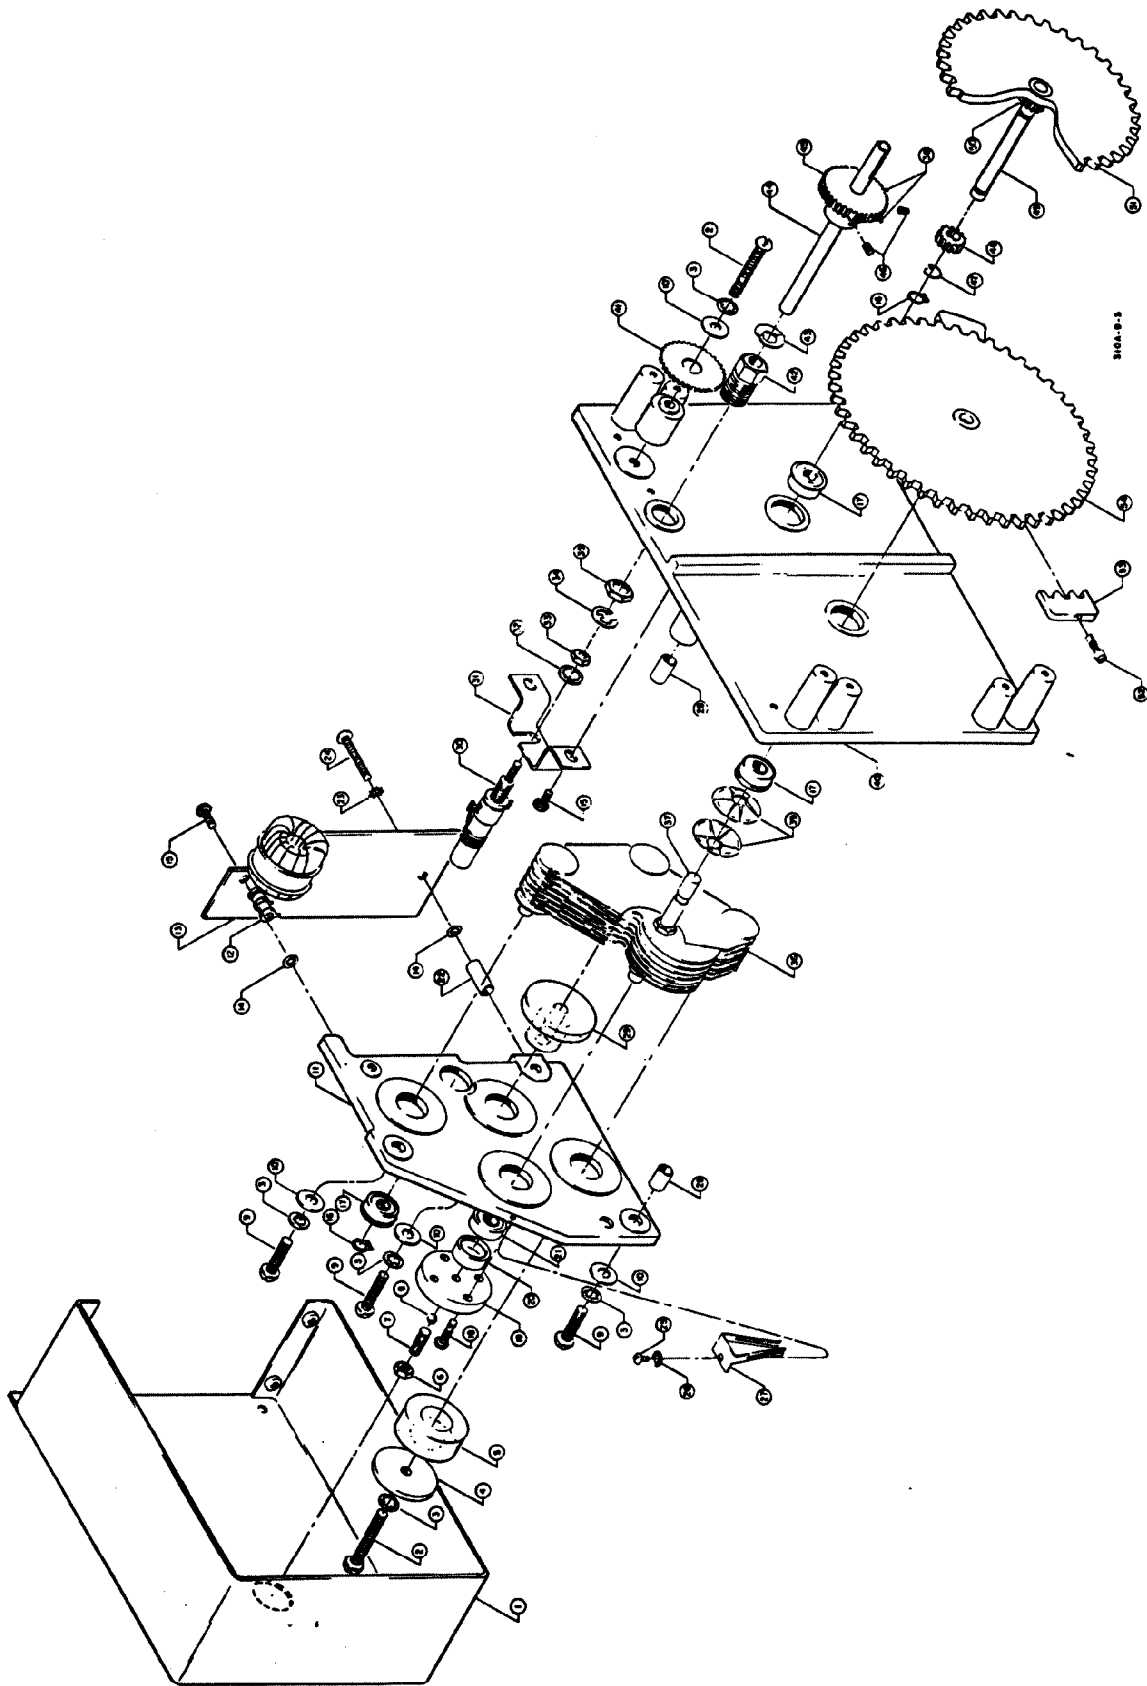

Figure 5-4. Capacitor Tuning Assembly
the frequency counter drive assembly, and the capacitor tuning assembly. A sketch of the tuning assembly is shown in Figure 5-7. An exploded view of the capacitor tuning assembly and the local oscillator assembly is shown in Figure 5-4. An exploded view of the frequency counter drive assembly is shown in Figure 5-8. Special tool, Ⓢ Stock No. T9138 alignment tool, is required for rotor adjustment. In addition, a hand press and plastic-head hammer is required since all bearings (except the ZERO SET shaft) are pressed into casting plates. Tables 5-6 and 5-7 list parts.
Before proceeding with further disassembly, determine the necessary steps from inspection of the Tuning Assembly and Figure 5-4 and 5-8.
- a. Refer to Figure 5-4.
- b. Disassemble reduction gear shaft (49) from rear casting (11).
- c. Disassemble main gear (54) from rotor shaft (37).
- d. Disconnect A7-Assembly (13) and clip spring (27) from rear casting (11).
- e. Disconnect blue lead from A7-Assembly (13) to insulator stator (4).
- f. Remove three round head screws (2) holding rear casting (11) to front casting (40).
- f. Assemble shield (1 - Figure 5-4) to tuner.